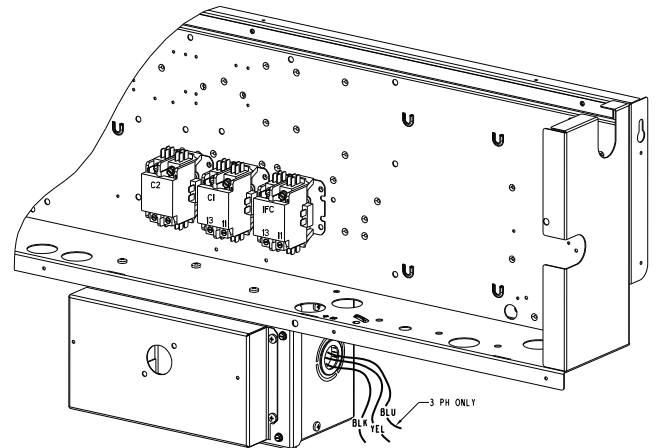

Fig. 28 — Location of Non-Fused Disconnect Enclosure
1. Remove the Control Box access panel. The NFD enclosure is located below the Control Box (see Fig 28).